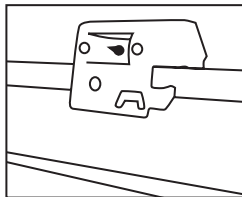

Figure 12
- Step 3.** Place frame into position and snap bar hanger foot with integral T-bar notch onto T-bars (Fig. 12). Lock in place. Additional holes are provided for securing with wire or screws if desired.